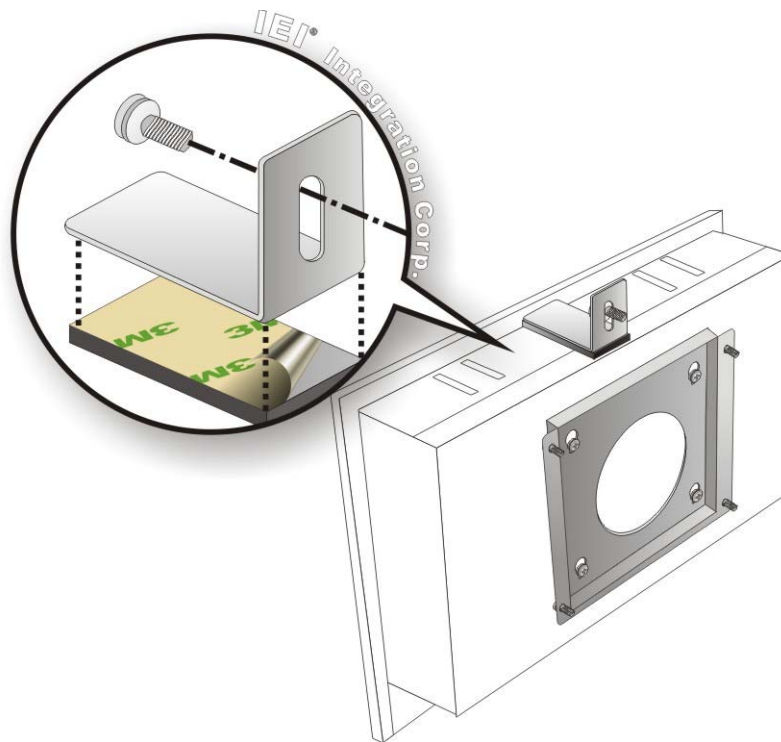

Figure 3-24: Secure the Chassis
- Step 9:** Secure the panel PC with the wall-mounting kit. To do this, stick the protective cushion to the wall-mounting kit first. Then, put the wall-mounting kit on the top panel of the panel PC. Carefully mark the location of the wall-mounting kit screw holes on the wall. Drill a pilot hole at the marked location on the wall. Secure the wall-mounting kit to the wall by inserting a retention screw into the pilot hole on the wall (**Figure 3-24**). This step is to avoid the panel PC being pushed apart from the wall-mounting bracket accidentally.